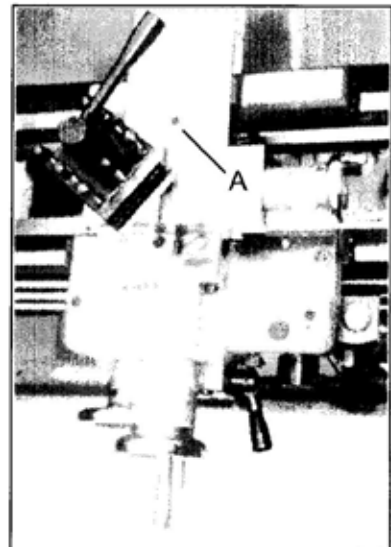

Fig. 25
1. Remove the screw (A, Fig. 25) holding the nut in place.